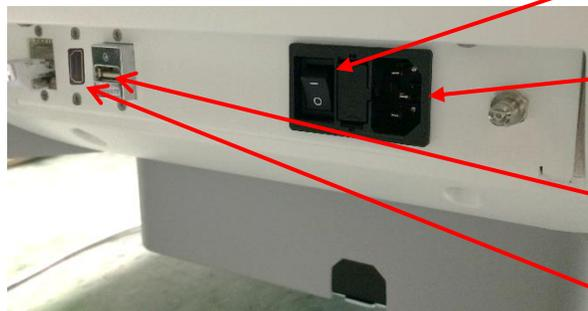

Figure 6: ExactVu System Power
1. Ensure the *main power switch* (i.e., the rocker switch on the bottom rear panel shown in Figure 6) in the *OFF* position and the *system power control* is unlit.
2. Connect the AC power cable into the ExactVu system power cable receptacle (beside the *main power switch*) (refer to Figure 6).